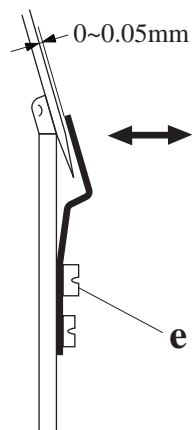
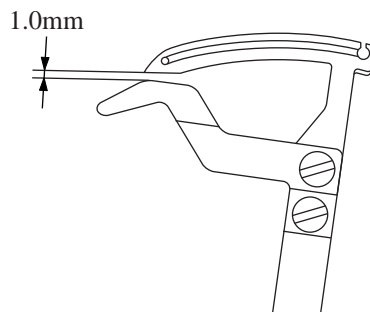

Fig.4
Fig.5
5. Clearance of chain needle(s) guard: Bring needle bar to its lowest position, turn the handwheel toward you and make sure that the clearance between both chain needle guard and needles is less than **0.05mm**. If necessary, adjust clearance with screw "e".(Fig.4) Make sure that the gap between chain needle guard and chain looper is set at **1.0mm**. (Fig.5)